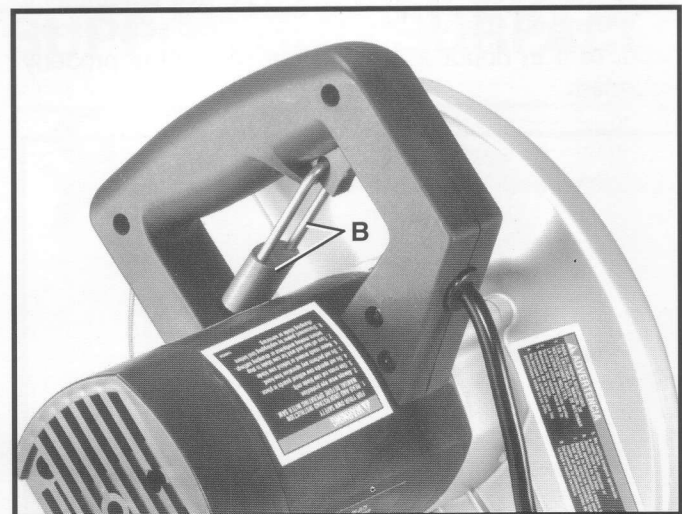

Fig. 14
IMPORTANT: We suggest that when the miter saw is not in use, the switch be locked in the "OFF" position using a padlock (B), as shown in Fig. 14.